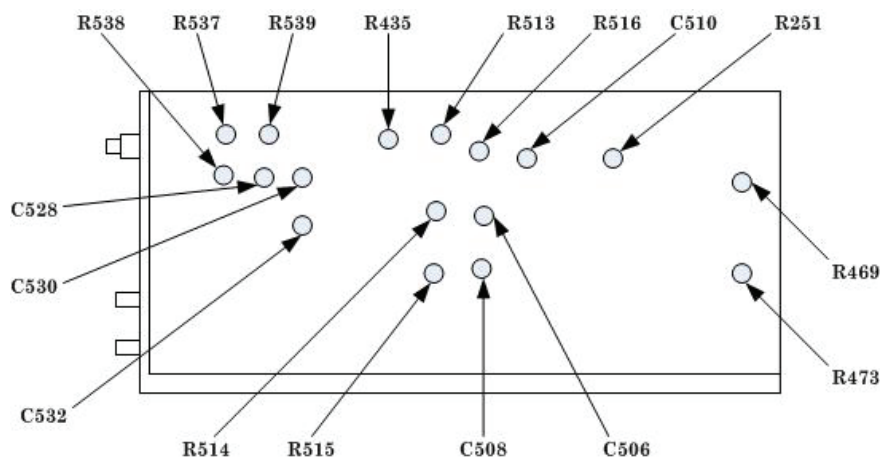

Figure 4. Time base and delay generator - right view.
(1) Adjust oscilloscope calibrator to 0 percent indication on **err** readout and adjust C510 (fig. 4) for 1 marker per division between 2^d and 10th vertical graticule lines (R).
(2) Repeat technique of **b(1)** above for **DELAYED TIME/DIV** switch and adjust C532 (fig. 4) (R).
- (1) Adjust R473 (fig. 4) until intensified portion of trace starts on 2^d time mark on 2^d vertical graticule line (R).
- (2) Adjust R469 (fig. 4) until intensified portion of trace starts on 10th time mark on 10th vertical graticule line (R).
Interaction exists between R473 (fig. 4) and R469 (fig. 4).
- (3) Adjust **DIV DELAY** control to **1.00** and adjust R473 (fig. 4) to align leading edge of first marker one division from start of sweep (R).
- (4) Set **DIV DELAY** control to **9.00**. Adjust R469 (fig. 4) to align leading edge of 10th marker one division from start of sweep (R).
- (5) Repeat **a** (1) through (4) above.